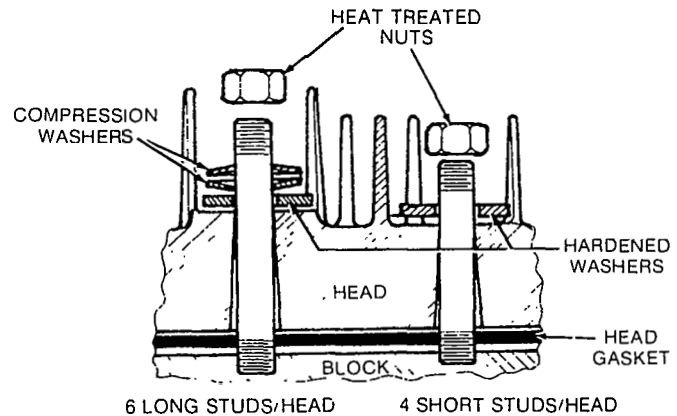

FIGURE 74. CYLINDER HEAD WITH
5. Some engines have two compression washers and one hardened washer on the long cylinder head studs (top 6 studs on each side) as shown in Figure 74. When these washers are used, they must be installed as shown. When properly installed, only the outside edges of the compression washers will be in contact with each other. Install a flat washer and nut on each of the four bottom studs.